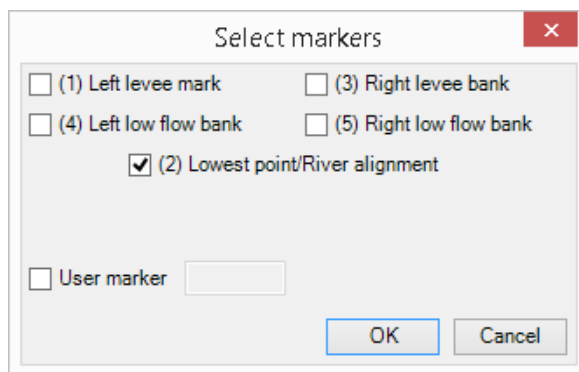

Figure 6.10 Select marker dialogue
**Markers.** Markers may be assigned to points in the 'Marker' column of the table. Markers can be assigned in two different manners: the first one is to click an element in the 'Marker' column, which opens a marker dialogue as shown in Figure 6.10 from which a requested marker number can be assigned for the selected point.